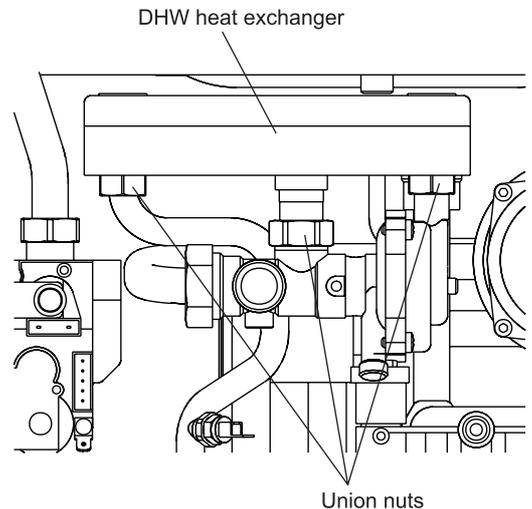

Fig. 31 HE CB25/33 only
8.26 DHW HEAT EXCHANGER (HE CB25/33 only) - Refer to Fig. 31